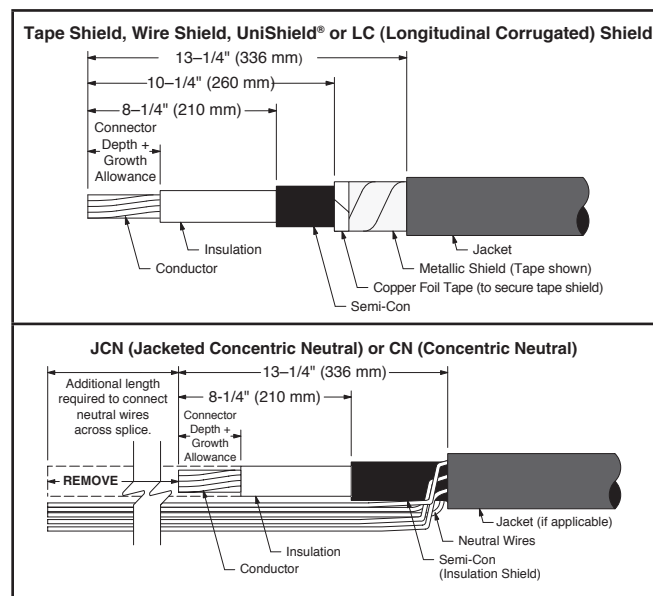

Figure 1
- 1.1 Prepare cable according to standard procedures. Refer to *Figure 1* below and include an allowance* for connector growth where applicable. Insulation removal length shall not exceed 3-3/4" (95 mm) from conductor end.